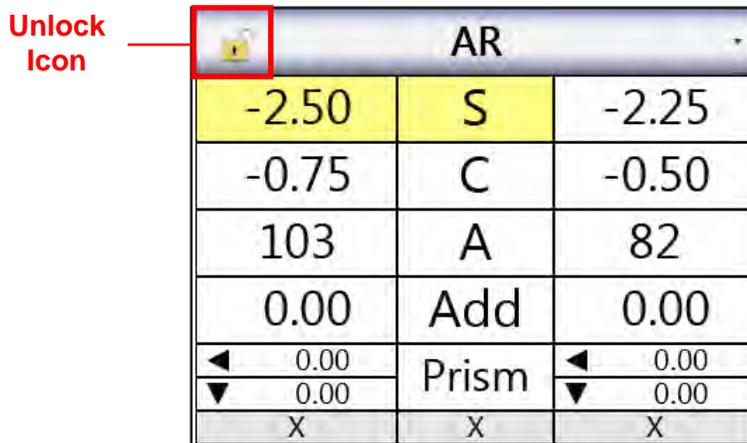

Figure IU-10, Data Input Drop-Down List
3. The data set is unlocked if it has not been used. If the data set has been used and you want to change it, touch **UNLOCK** at the top left of the title bar to open it. (Please refer to Figure IU-10.)